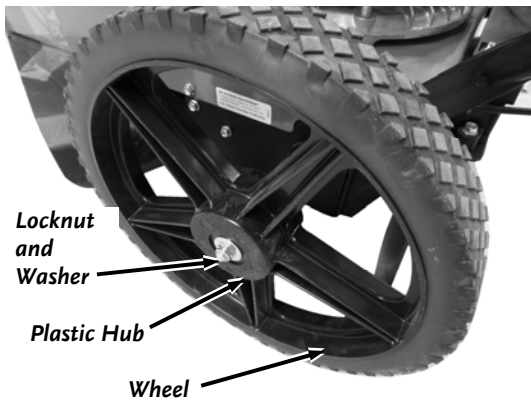

Figure 2
1. Remove the 3/8-16 Locknut and washer from the end of the axle with a 9/16" Wrench (Figure 2).